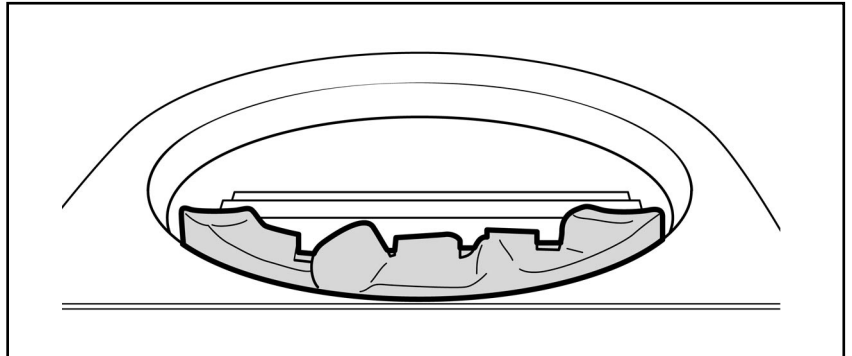

Figure 5. Front base pebble location
1. The front base pebble has the letters 'MF' on the underside. Locate the front base pebble in front of the burner (See figure 5)